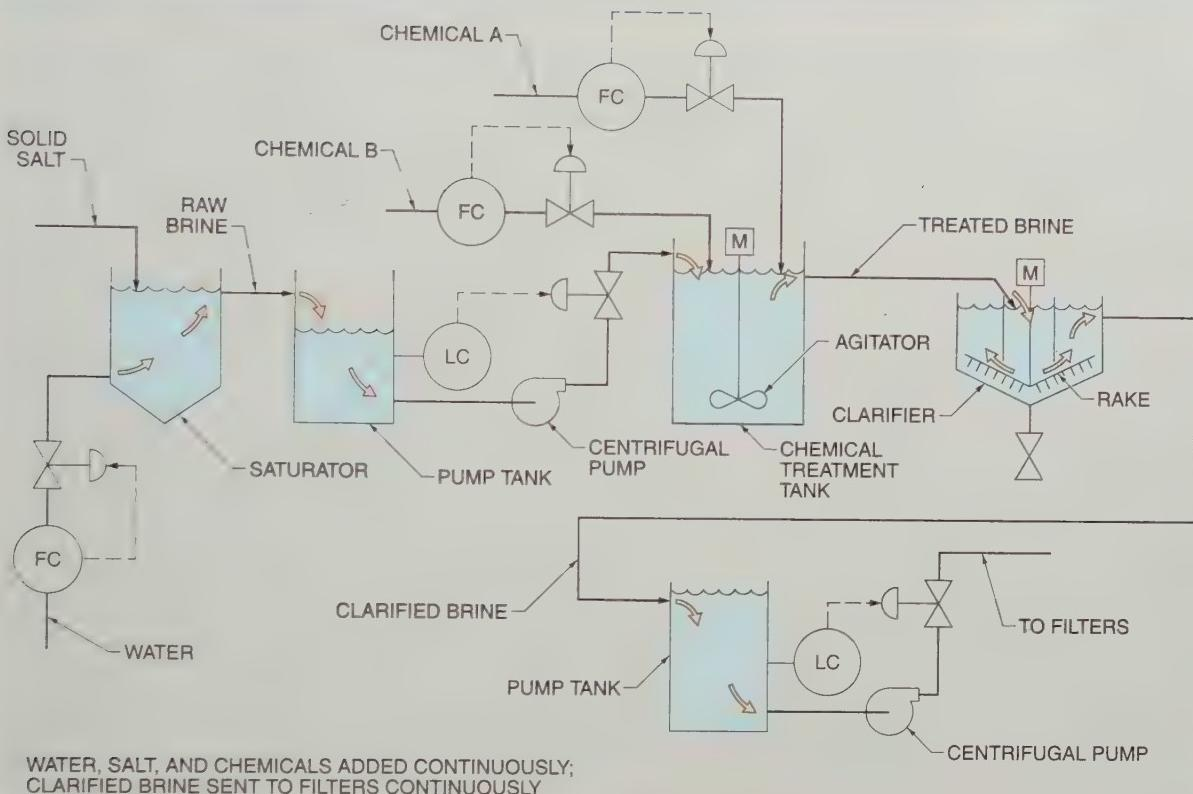

Figure 46-1. A continuous process has regular material flows from one part of the process to another.
For example, a continuous process can be used to make a brine solution from solid salt and water. See **Figure 46-1**. Water is pumped into a saturator. The water flow controller (FC) adjusts the flow rate of the water into the saturator by adjusting the control valve. Solid salt is added to the saturator and the resulting raw brine is transferred to a pump tank. The brine is pumped from the pump tank to the chemical treatment tank. A level controller (LC) maintains the level in the pump tank by adjusting a control valve after the centrifugal pump.